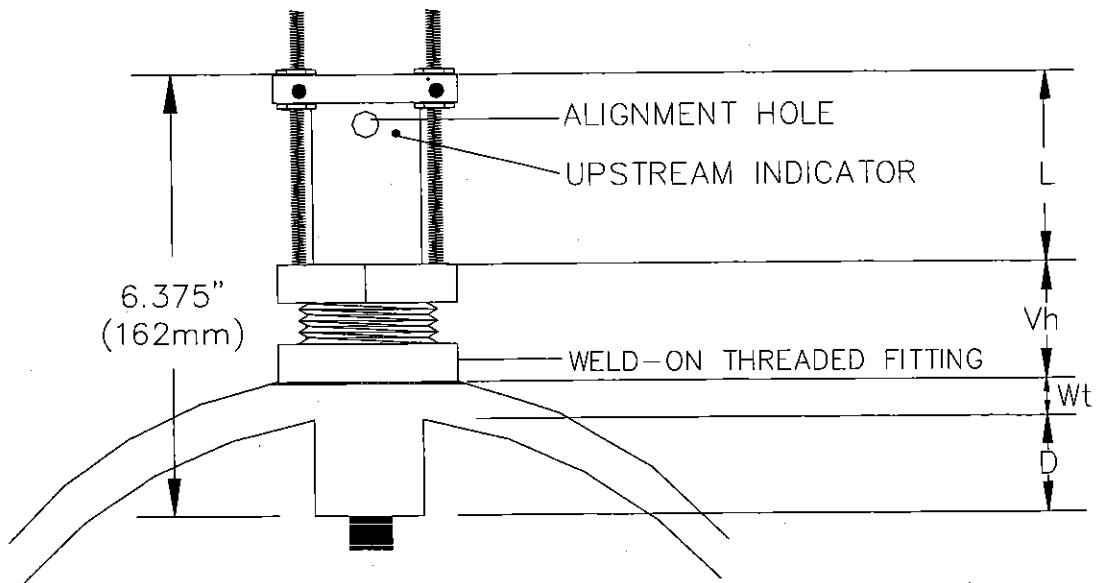

Figure 1-6 Model 400 Sensor Installed (end view)
- For Model 400 and 500 sensors - the 1/16-inch (1.6-millimeter) upstream indicator hole located in the sleeve of the sensor (Figures 1-6 and 1-9) is pointing in the upstream direction.